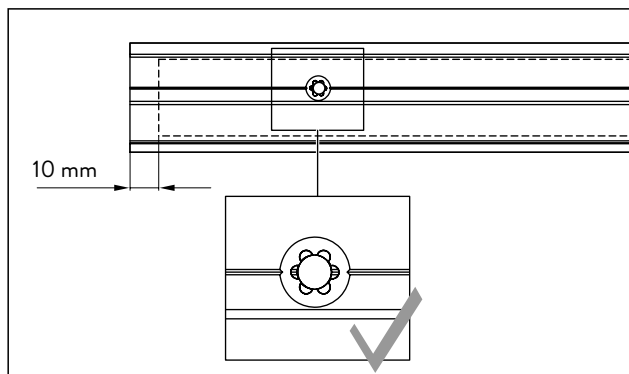

Fig. 26 Positioning the lining profile
3. Insert the lining profile into the counter profile in such a way that the pre-drilled holes of the lining profile and the track are lined up with each other. The lining profile should be shifted in by a minimum of 10 mm on each side (Fig. 26).